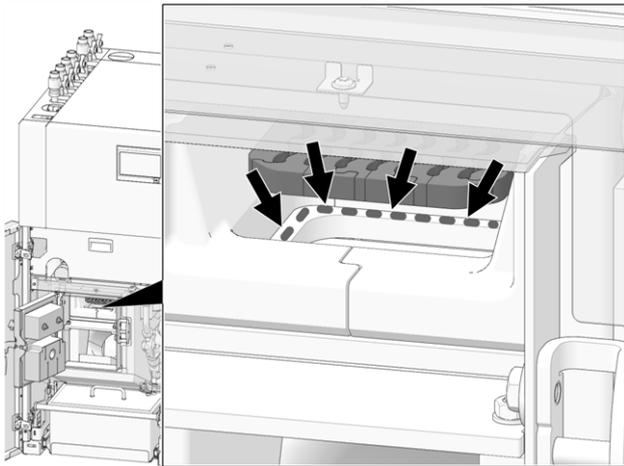

Abb. 2-56: Clean stainless steel combustion grate support surface
- ▶ Insert a new stainless steel combustion grate, after first cleaning the support surface > Abb. 2-56